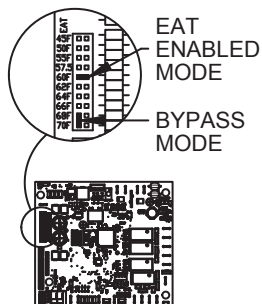

Figure 1
- a. **On EDSM and EDSM/TP control systems**, if the remote control station hasn't been tested and the ambient temperature is at or above the Entering Air Thermostat (EAT) set point, note the set point position and pull the jumper off the temperature set point (EAT Enabled Mode) and reinstall it sideways on the terminal block (Bypass Mode) as shown in Figure 1. Refer to the Individual Component Description section for additional information.